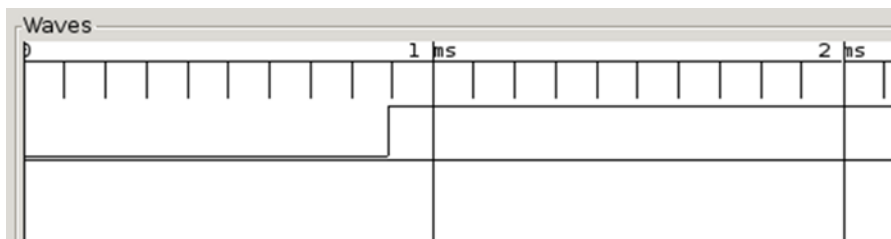

Figure 10-1. *Ideal debounced button press*
The ideal signal to be seen and read by a GPIO input is shown in Figure 10-1. At rest, the signal is low (reading as 0). When pressed, the signal transitions to high (1) and remains high as long as the button is pressed. Figure 10-1 was a signal captured by PiSpy from a push button employing a debounce circuit.